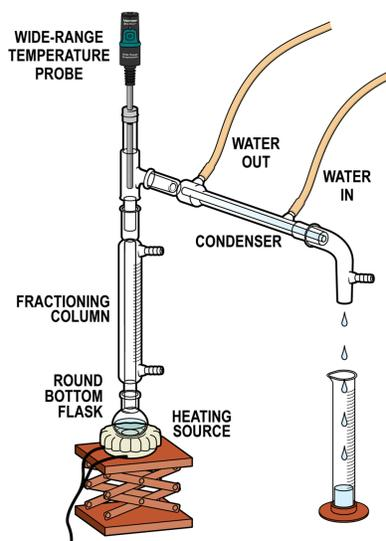

Figure 3
- a. Assemble a simple distillation apparatus using your smallest round-bottom flask to distill from. Use a heating mantle to heat (see Figure 3).